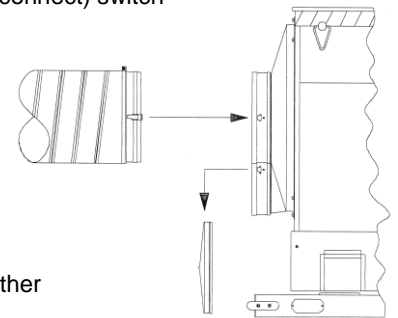

FIGURE 5
2. Place air duct in aircraft and ensure that the opening is unobstructed. Remove yellow output air duct from the storage compartments located under the unit. Remove yellow dust caps from the input and output duct openings located on the back of the air conditioner and place in the storage compartment. Attach yellow output air duct to the air conditioner via the duct opening located on the back of the air conditioner. See Figure 5. Place other end of yellow duct into the aircraft.